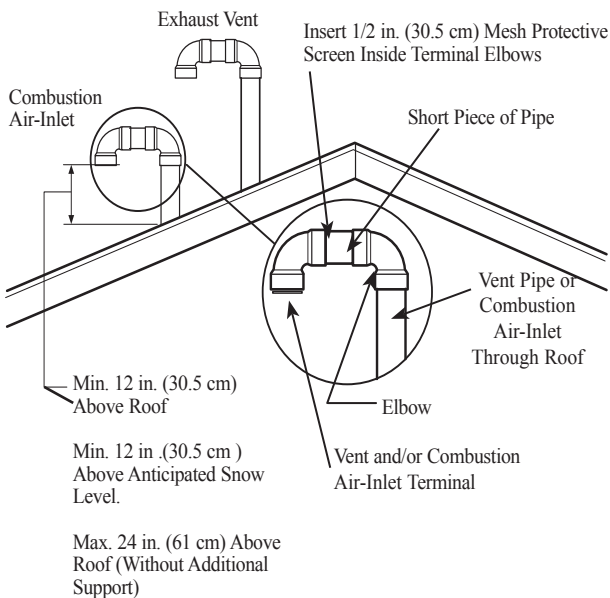

Figure 8
The location of the vent and combustion air-inlet terminals depends on the following minimum clearances and considerations (see Figure 8):
Determine the locations for the vent and combustion air-inlet terminals then make two (2) holes through the roof and interior ceiling(s) to accommodate the vent and combustion air-inlet pipes. Maintain a minimum distance of 16 in. (40.6 cm) between the vent and combustion air-inlet terminals (see Figure 8).
Determine the vent and combustion air-inlet terminal heights and cut the pipe accordingly. Refer to Figure 8 for the terminal requirements.